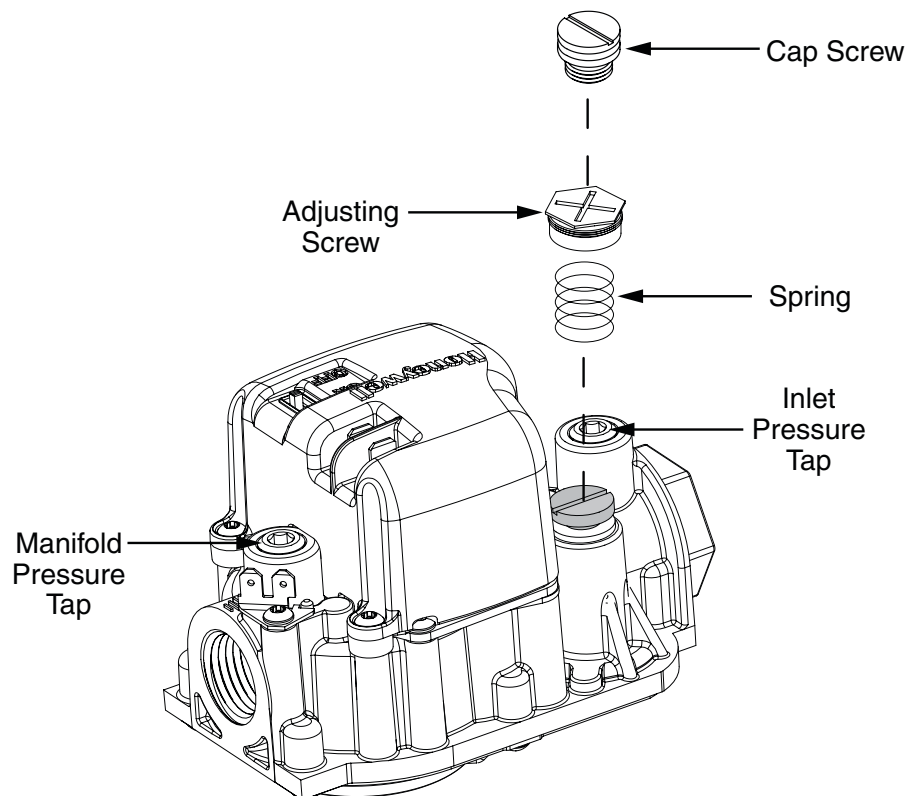

Figure 2. Inlet & Manifold Pressure Tap Locations
1. Remove the cap screw from the gas valve as shown in Figure 2 \(page 5\).
2. Using a 3/16" Allen wrench, remove the plug from the inlet pressure tap (INLET side of gas valve). See Figure 2 \(page 5\).
4. Place the gas valve ON/OFF switch/knob to the ON position. See Figure 2.
3. Using a 3/16" Allen wrench, remove the manifold pressure tap plug located on the outlet side of the gas valve. See Figure 2.
1. Remove the cap screw from the top of the gas valve regulator. See Figure 2 \(page 5\).
2. Using a screwdriver or Allen wrench (where appropriate), slowly turn the adjustment screw till the appropriate manifold pressure listed in Table 2 is achieved. See Figure 2.